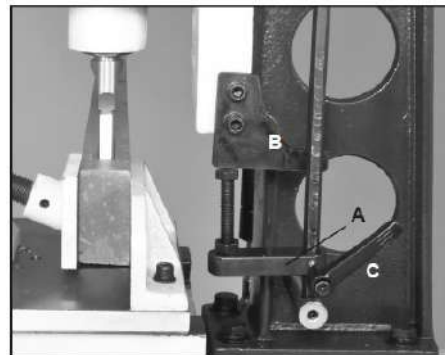

Fig 14
2. Position the depth stop Plate (#81, FIG. 14, A) along the Guide Column Rod (#10) until the hex head Bolt (#79) hits the Depth Stop Plate (#12), B, that is mounted on the mortiser's head.